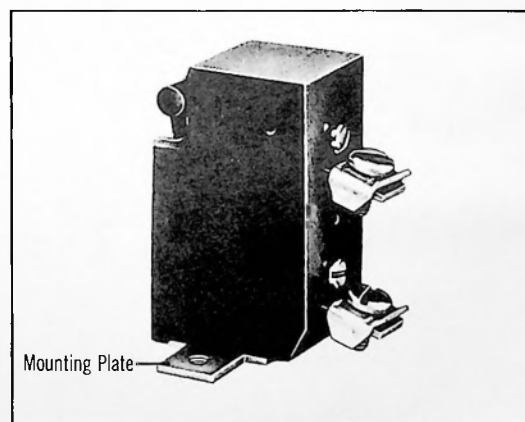

Figure 2 - Pole Adder Detail
1. Adjust the metal mounting plate of the pole adder unit for left hand or right hand mounting by loosening the base mounting screw, and rotating the pole adder base plate to the desired mounting position. See Figure 2.